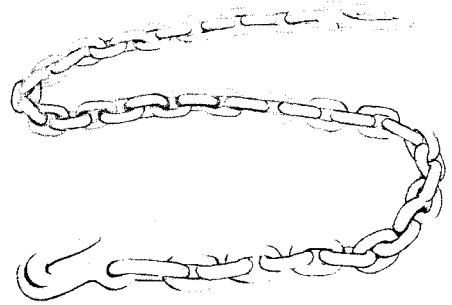

Fig. 2—1/2-Inch Chain
- 2.02 The 1/2 inch construction chain is provided in 6 and 15 foot lengths. One end of the chain terminates in a pear shaped link and the other end in a grabhook. A six foot length is shown in Fig. 2.